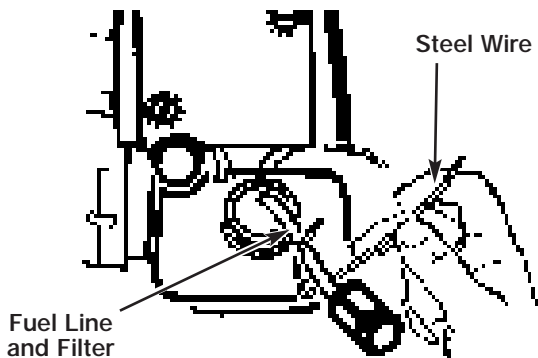

Fig. 30
1. Lift the fuel line and filter out of the tank. Use a steel wire with a hook or a paper clip (Fig. 30).